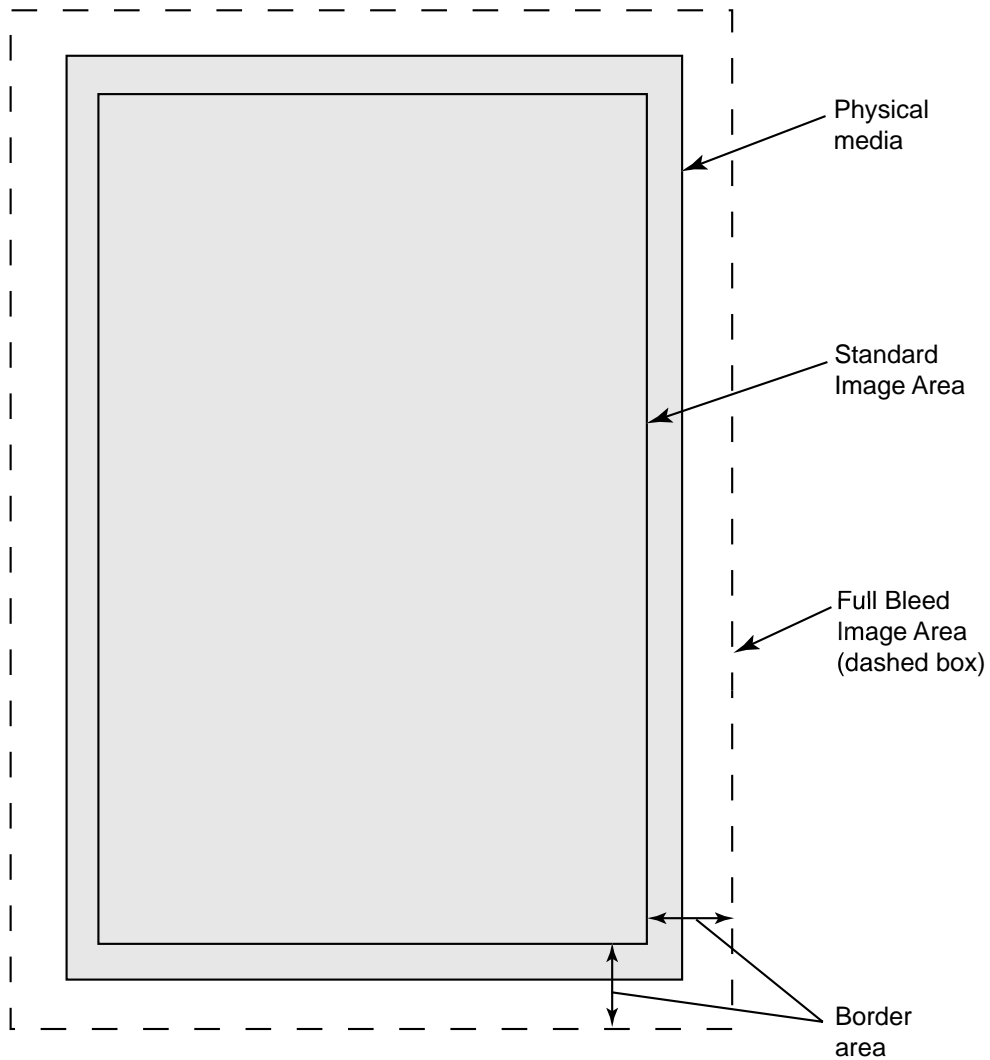

Figure 6-1. Horizon Sheet Layout
Figure 6-1 on page 6-7 shows the components of the Horizon sheet layout, which are:
**NOTE:** The illustration in Figure 6-1 is exaggerated to more clearly point out the sheet layout elements.